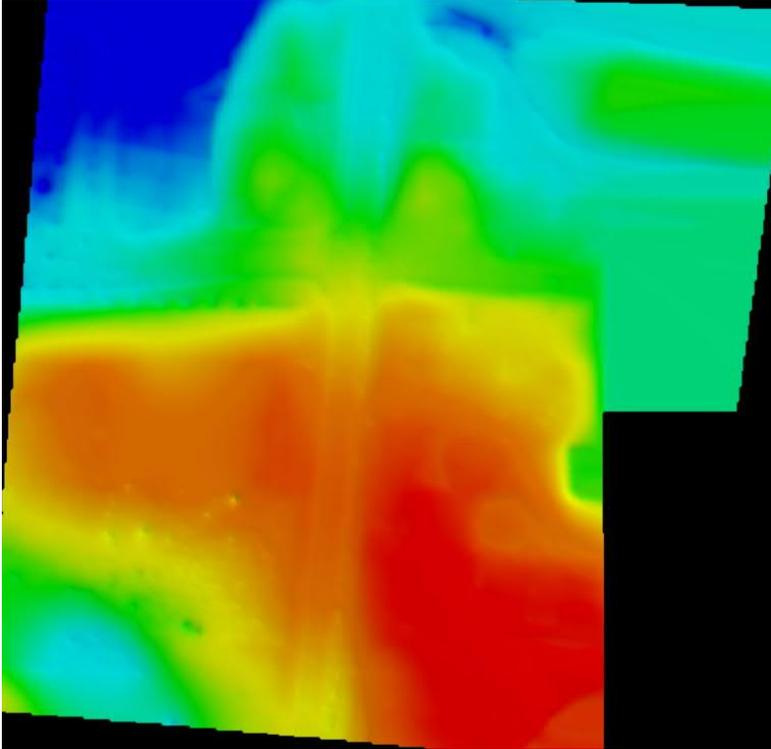
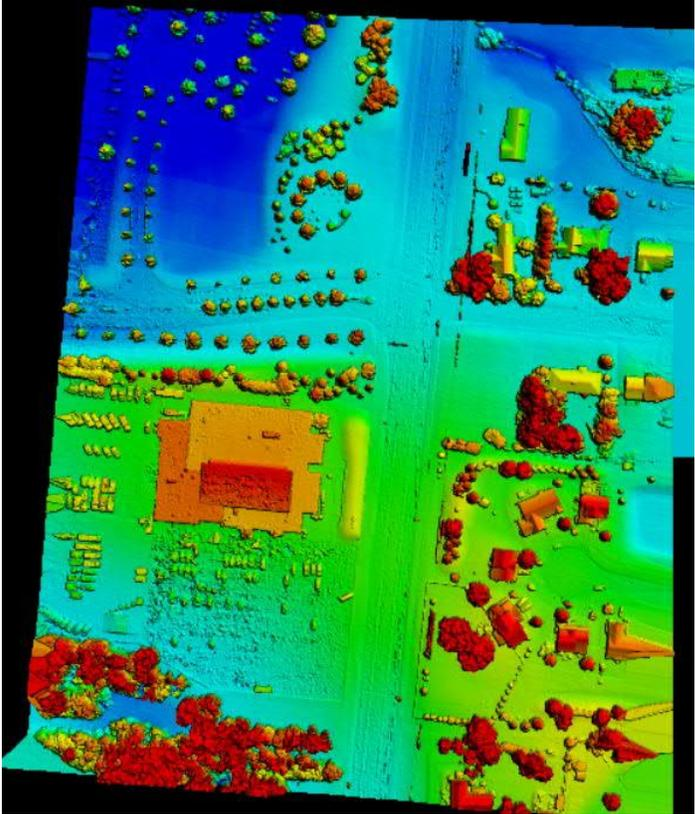

Figure 12 DTM surface (bare-earth)
Figure 13 DSM surface
- iii. Make sure that you are using the DTM and not the DSM. DTM is cleaned surface as illustrated in Figure 12 while DSM is a surface with all above ground features such as buildings and trees present in it as illustrated in Figure 13.